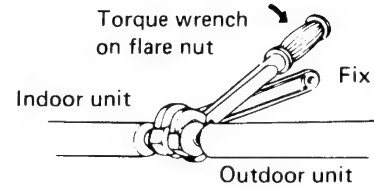

Fig. 27
2. Flare nut on large dia. tube should be torqued to 510 ~ 550 lbs. in. Flare nut small dia. tube should be torqued to 130 ~ 170 lbs. in. Fig. 27